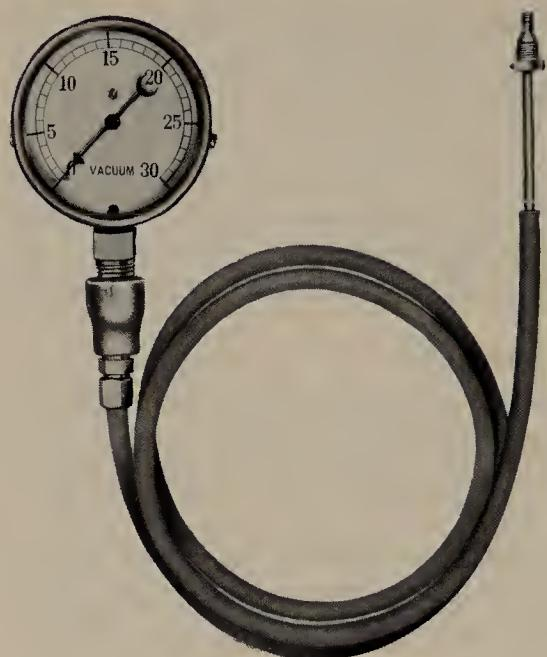

FIGURE 2.13 Vacuum gauge.
2. *Vacuum Gauge.* The vacuum gauge is really a pressure gauge. The type of vacuum gauge used in engine service contains a bellows or diaphragm which is linked to an indicating needle on the dial face (Fig. 2.13). When the vacuum gauge is connected to the engine (to the intake manifold), the vacuum produced by the engine causes the needle to move and register the amount of vacuum. This action results because the vacuum causes part of the air in the bellows or back of the diaphragm to pass into the engine. Then, air pressure causes the bellows or diaphragm to move, thereby causing the needle to move. The amount that the needle moves depends on the amount of vacuum. The amount of vacuum that a running engine can produce is a measure of engine condition. The vacuum gauge is thus a good diagnostic tool to determine the actual condition of the engine. This is discussed in detail in a later chapter.